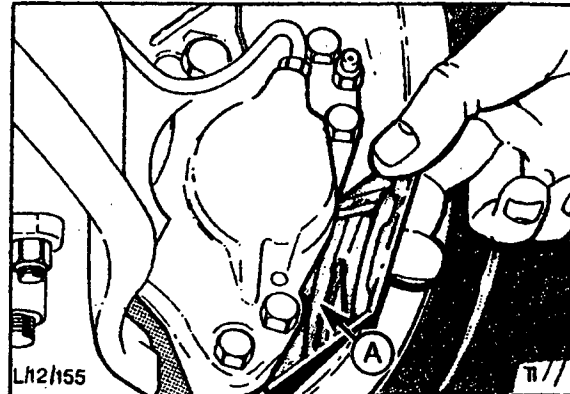

Fig.16. Disc and Caliper assembly.
1. From underneath the vehicle visually inspect brake pads for signs of wear, Fig.16. If thickness is less than 1,5 mm (0,060 in), renew pads. Refer to Operation 12 233.
3. Check conditions of linings. There should always be at least 1,0 mm (0,040 in) depth of lining material on the linings, 'A', Fig.16.